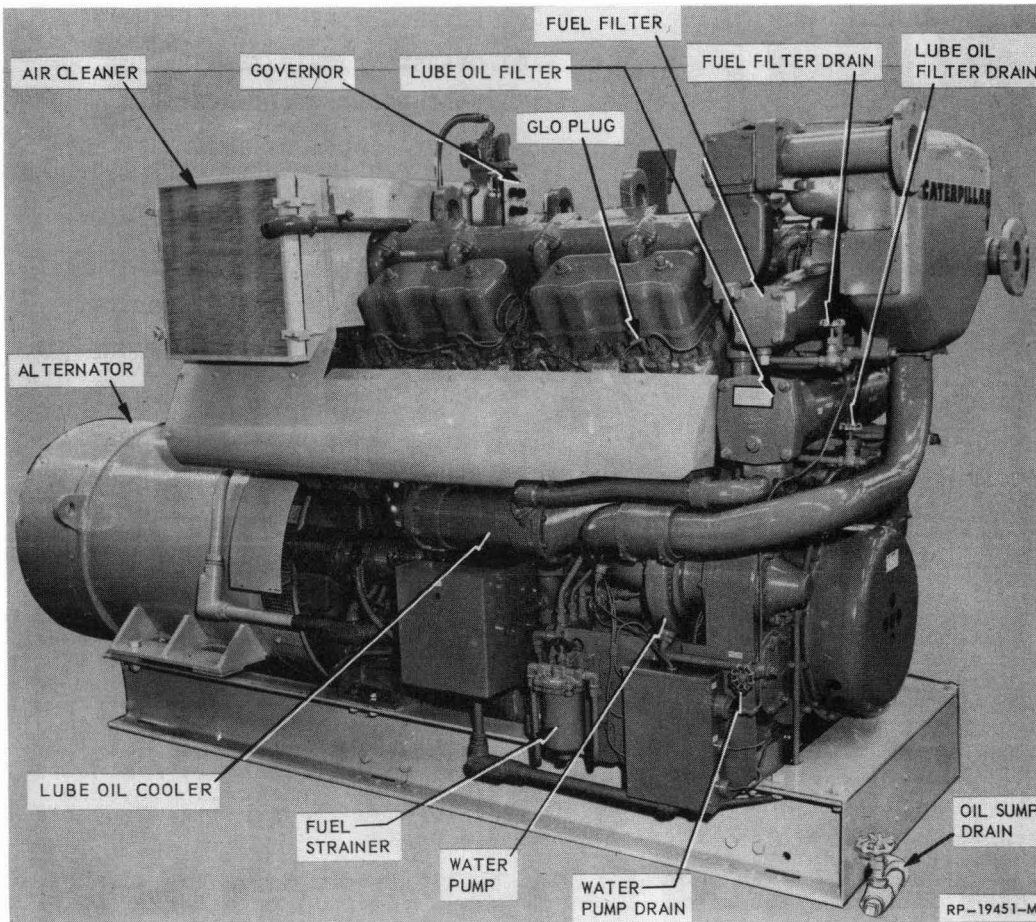
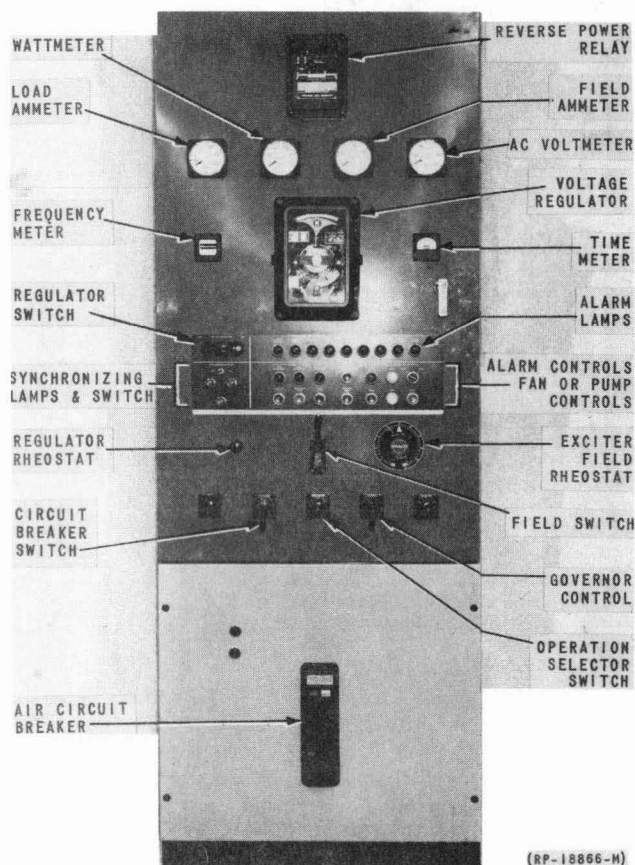

FIG. 1 KS-15954 ENGINE-ALTERNATOR - RIGHT SIDE
FIG. 3 KS-15954 CONTROL PANEL - AUTOMATIC SET (PAR. 2.7)
1.51 The KS-15954 engine-alternator is pictured in Figures 1 and 2 and a typical control cabinet is shown in Figure 3.
4.331 Close all drain valves and operate other valves as indicated in Figure 3 of Section 133. Add water to either tank (engine not running) until water level showing in both tank sight gauges is about 1/4 inch below the top of the gauge glass. See Paragraph 8.23 for water level adjustment with system running.
7.11 Lay out mounting area for cabinet and install, using job drawings and information in Handbook 30 on floor layout and in Handbook 18 on leveling and fastening to floor. A typical cabinet is shown in Figure 3.